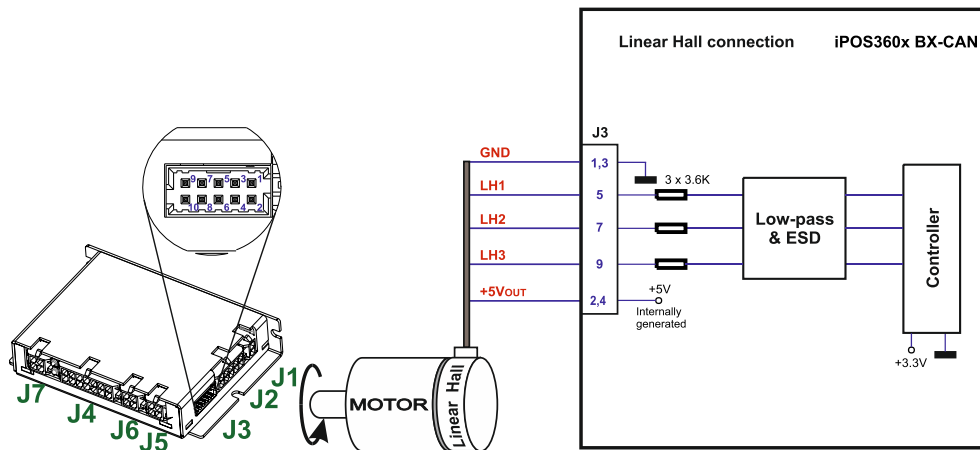

Figure 3.22. Linear Hall connection
1. The CAN network requires a 120-Ohm terminator. This is not included in the drive. Figure 3.22 shows how to connect it on your network